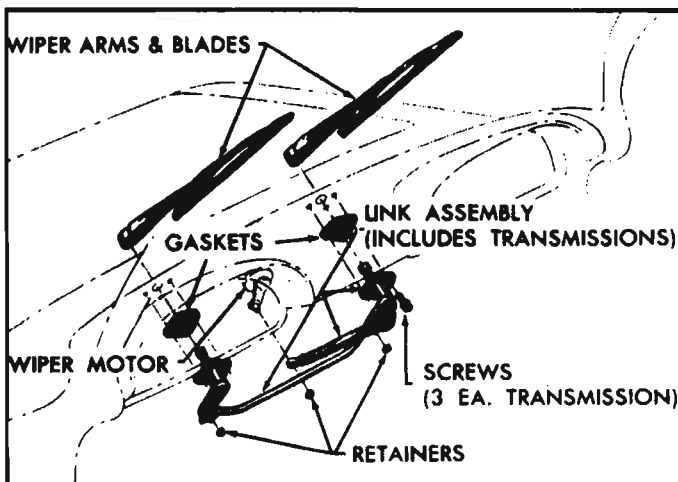

Fig. 10-27—Windshield Wiper Linkage
3. Remove retainer securing drive link to wiper motor drive arm (fig. 10-27).
1. Remove retainer securing drive link to wiper motor drive arm (see fig. 10-27).